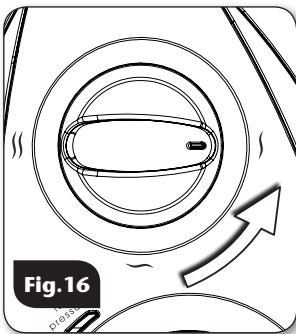

Fig.16
C. With the cover off the shower - turn the power selector to the COLD position (**fig.16**).